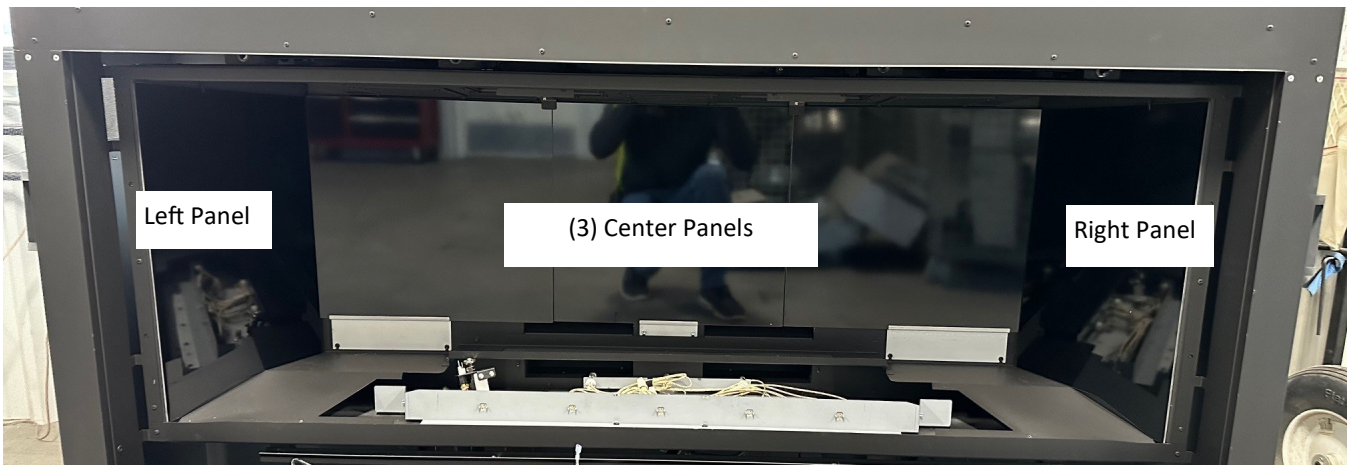

Figure 3 – Panel Identification
5. Identify the correct panel for installation. See Figure 3. The (3) rear glass panels are all the same size.